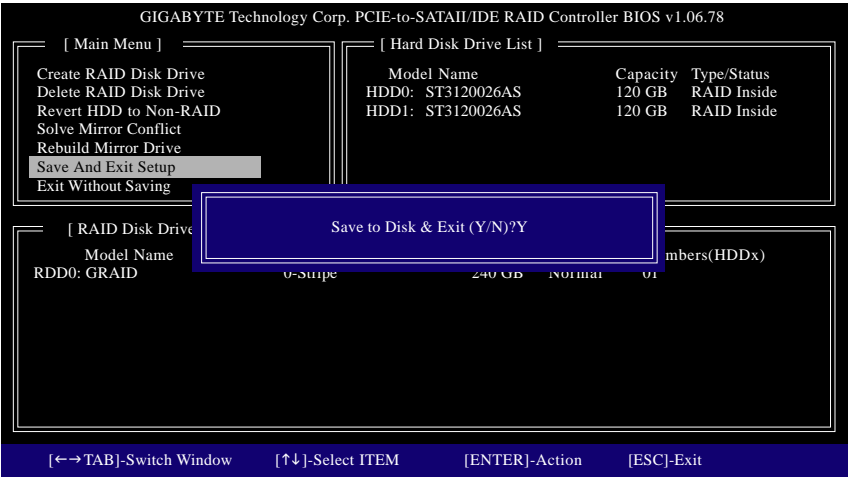

Figure 10
7. Save and Exit Setup: After configuring the RAID array, select the **Save And Exit Setup** item in the main screen to save your settings before exiting the RAID BIOS utility, then press <Y> (Figure 10).